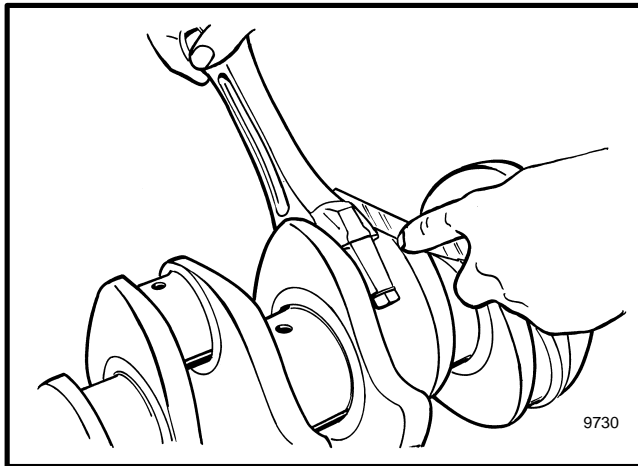

FIGURE 50. CHECK THE CLEARANCE BETWEEN THE CONNECTING ROD AND THE CRANKSHAFT
3. Install the connecting rod on the crankshaft. Check the axial clearance between the connecting rod and the crankshaft as shown in FIGURE 50. The maximum clearance is 0.35 mm (0.014 inch).